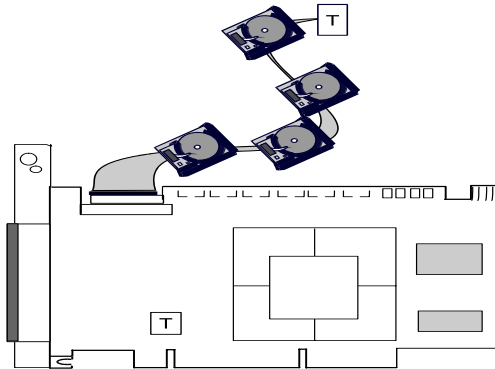

Figure 2-10. Connecting Internal Disk Drives to the AcceleRAID 170LP
- (a) Connect the SCSI cable from to the internal SCSI connector on the AcceleRAID 170LP controller to an internal disk drive set (Figure 2-10).